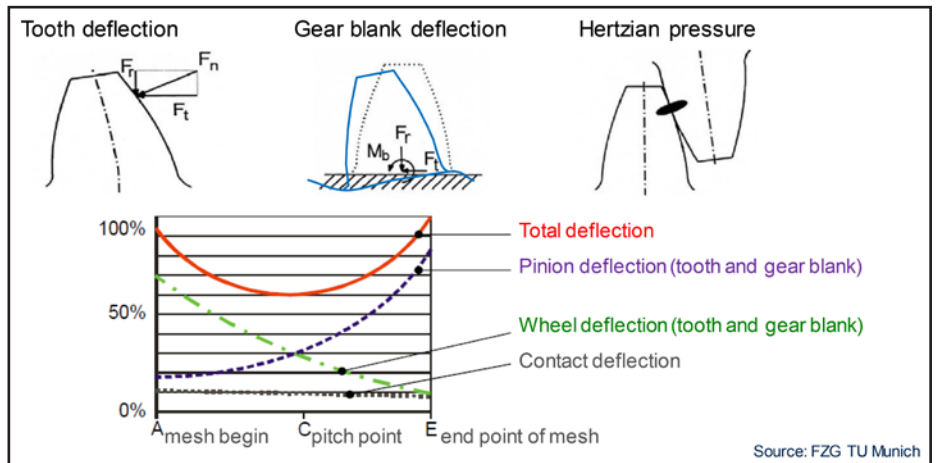
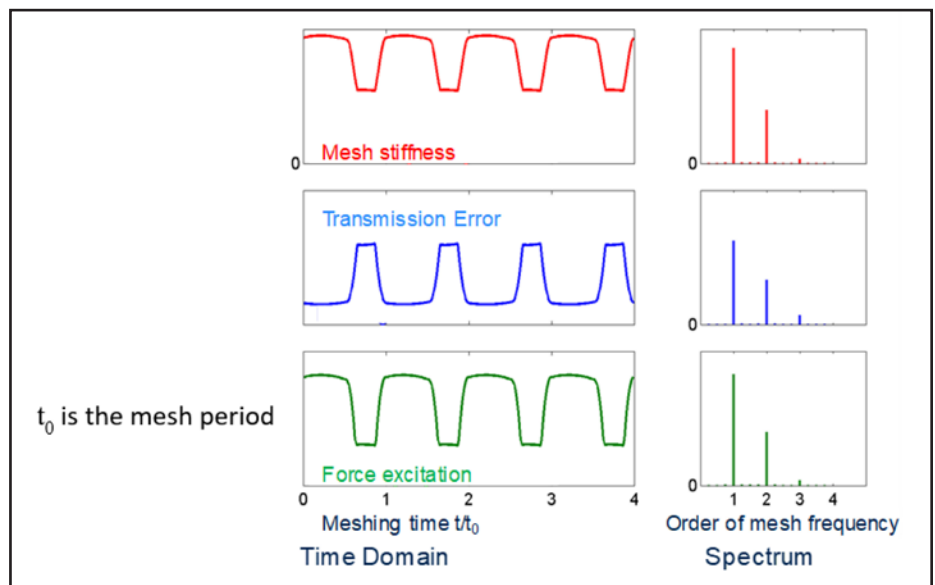

Figure 2 Contributions to single tooth contact deflection along path of contact (Source: FZG TU Munich).
Figure 4 Characteristic parameters for spur gear with unmodified involute profile.
Single tooth mesh stiffness consists of three components as depicted in Figure 2:
**Dynamic excitation.** Even with perfect profile modification preventing an interference between the mating gear teeth entering the gear mesh, the total mesh stiffness varies considerably along the path of contact. This is caused by the influences as described in Figure 2 and, moreover, in the change between single and double tooth contact along the path of contact. Especially for spur gears, two indicators for excitation can be derived from this change of stiffness (Fig.4):
Mesh stiffness, transmission error and force excitation are shown (Fig.4) for a spur gear pair without flank corrections. The mesh stiffness (red line) herein is defined from the ideal involute. The transmission error (blue line) represents the angular position difference from uniform transmission. The